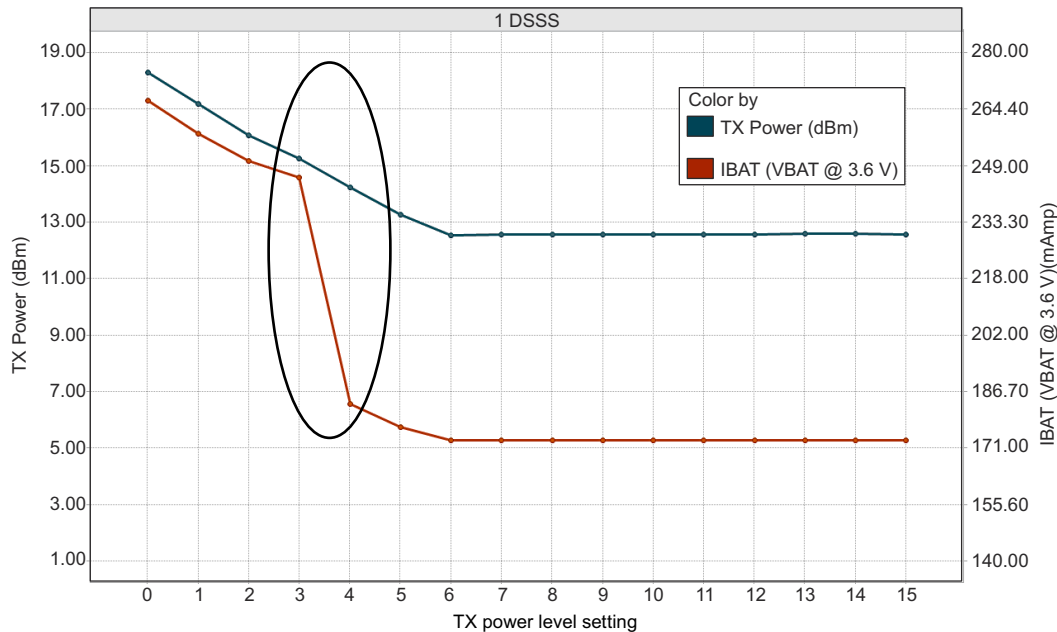
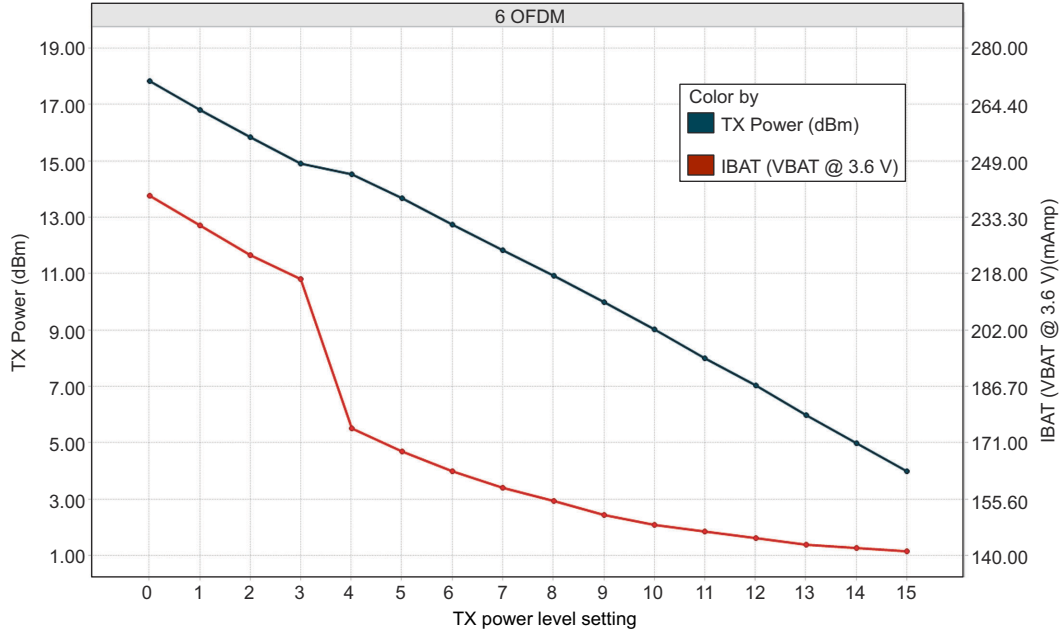
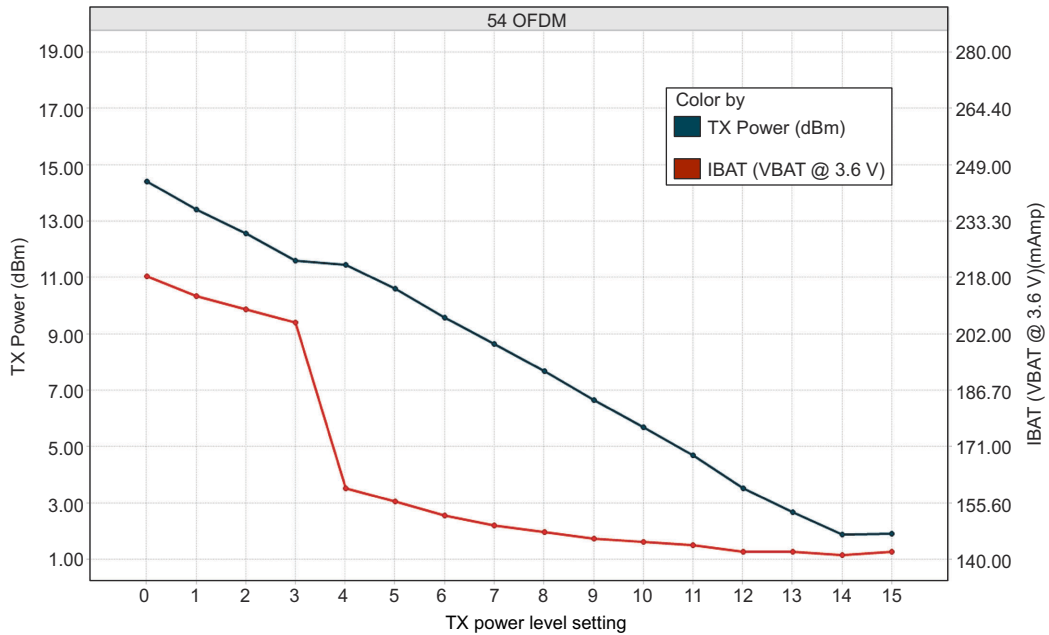

Figure 7-1. TX Power and IBAT vs TX Power Level Settings (1 DSSS)
Figure 7-2. TX Power and IBAT vs TX Power Level Settings (6 OFDM)
Figure 7-3. TX Power and IBAT vs TX Power Level Settings (54 OFDM)
- (1) TX power level = 0 implies maximum power (see 図 7-2, 図 7-2, and 図 7-3). TX power level = 4 implies output power backed off approximately 4dB.
- (2) LPDS current does not include the external serial flash. The CC3235MODx and CC3235MODAx can be configured to retain 0KB, 64KB, 128KB, 192KB, or 256KB of SRAM in LPDS. Each 64-KB block of MCU retained SRAM increases LPDS current by 4μA.
- (3) DTIM = 1
- (4) The complete calibration can take up to 17 mJ of energy from the battery over a period of 24 ms. Calibration is performed sparingly, typically when coming out of HIBERNATE, and only if the temperature has changed by more than 20°C. The calibration event can be controlled by a configuration file in the serial flash.
- (5) Typical numbers assume a VSWR of 1.5:1.
Figure 7-1, Figure 7-2, and Figure 7-3 show TX power and IBAT versus TX power level settings for the CC3235MODS module at modulations of 1 DSSS, 6 OFDM, and 54 OFDM, respectively. For the CC3235MODSF module, the IBAT current has an increase of approximately 10 mA to 15 mA depending on the transmitted rate. The TX power level remains the same.⁴
In Figure 7-1, the area enclosed in the circle represents a significant reduction in current during transition from TX power level 3 to level 4. In the case of lower range requirements (14-dBm output power), TI recommends using TX power level 4 to reduce the current.